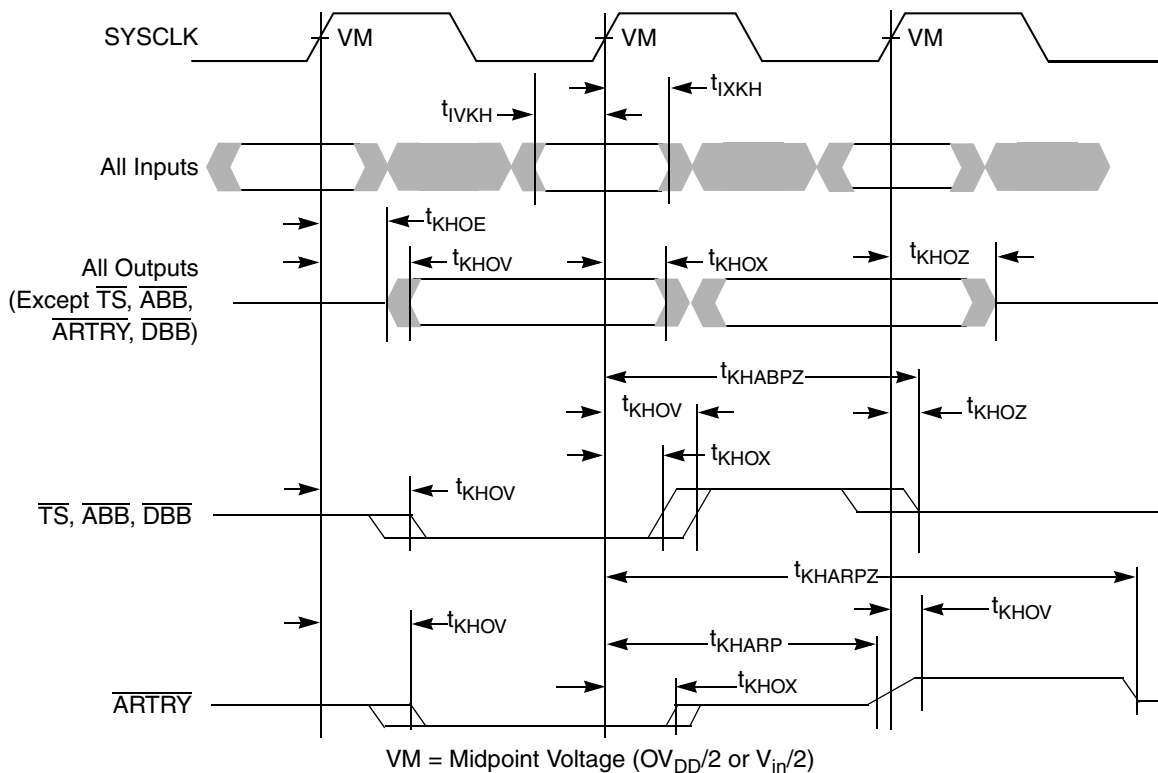

Figure 6. Input/Output Timing Diagram
- Per the 60x bus protocol, \overline{TS} , \overline{ABB} , and \overline{DBB} are driven only by the currently active bus master. They are asserted low, then precharged high before returning to high-Z as shown in Figure 6. The nominal precharge width for \overline{TS} , \overline{ABB} , or \overline{DBB} is $0.5 \times t_{sysclk}$, that is, less than the minimum t_{sysclk} period, to ensure that another master asserting \overline{TS} , \overline{ABB} , or \overline{DBB} on the following clock will not contend with the precharge. Output valid and output hold timing is tested for the signal asserted. Output valid time is tested for precharge. The high-Z behavior is guaranteed by design.
- Per the 60x bus protocol, \overline{ARTRY} can be driven by multiple bus masters through the clock period immediately following \overline{ACK} . Bus contention is not an issue since any master asserting \overline{ARTRY} will be driving it low. Any master asserting it low in the first clock following \overline{ACK} will then go to high-Z for one clock before precharging it high during the second cycle after the assertion of \overline{ACK} . The nominal precharge width for \overline{ARTRY} is $1.0 t_{sysclk}$; that is, it should be high-Z as shown in Figure 6 before the first opportunity for another master to assert \overline{ARTRY} . Output valid and output hold timing is tested for the signal asserted. Output valid time is tested for precharge. The high-Z and precharge behavior is guaranteed by design.
Figure 6 provides the input/output timing diagram for the MPC755.